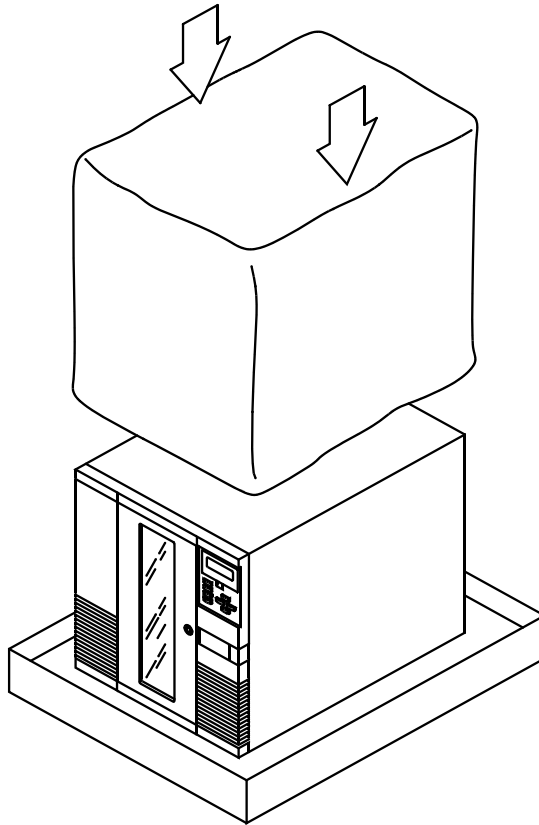

Figure 7-6 Placing the antistatic bag over the library
3. Place the antistatic bag over the library as shown in Figure 7-6.